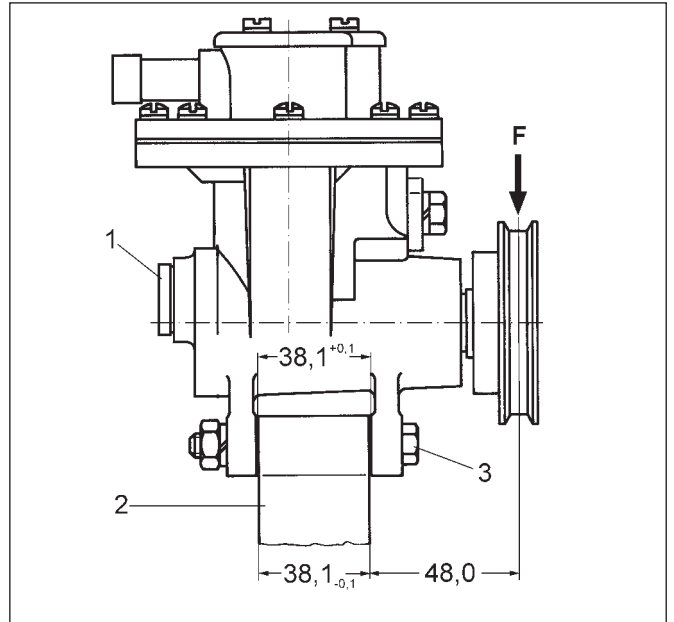

Fig. 3
Carefully unscrew filler screw (1), Fig. 3. With the pump in the correct mounting position, check that oil discharges properly from the opening; refill oil if necessary. Retighten filler screw with a torque of 25 Nm.
For other applications, Figs. 3 and 4
The mounting position shown in Figs. 3 and 4 must be maintained in order to ensure perfect lubrication of the drive parts.
To Figs. 3 and 4 dimensions in mm